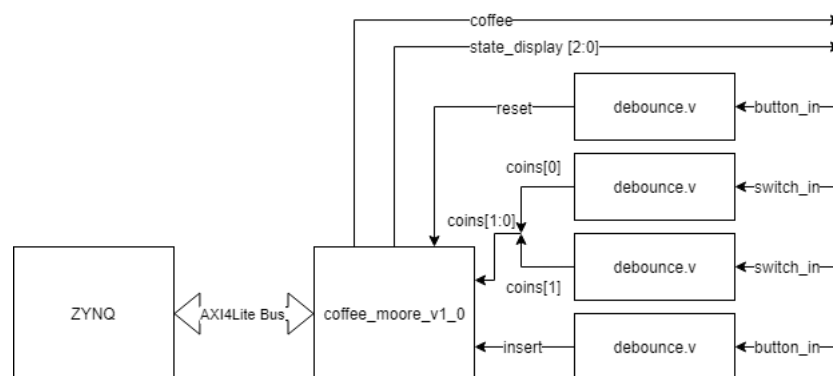

Figure 3: General structure of the block design.
Task 11. Create a block diagram. The resulting structure should resemble figure 3.
5. The FSM block is reset by pushing a push button in the Pynq board. Thus, Connect the `reset` of FSM block to the output of a denounce module which will be connected to a push button as shown in Fig.3. Similarly connect `insert` and `coins` to push button and switches as shown in Fig.3.